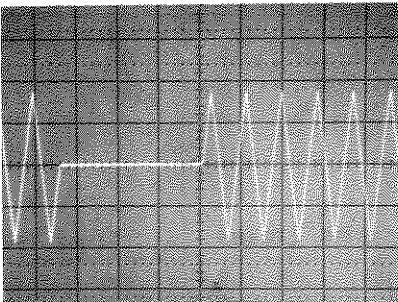

Figure 5-9. Gate Baseline Adjustment
2.3 Observe gated output waveform on scope. Adjust A5R115 to center baseline (Figure 5-9).